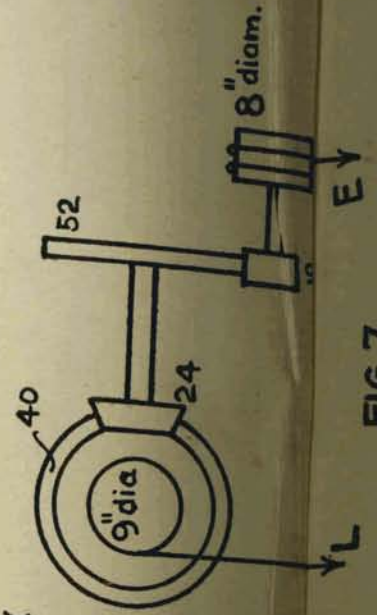

FIG. 7
7. In an experiment on a gear-box (Fig. 7) the following values for L, the load raised, and E, the corresponding effort, were obtained :